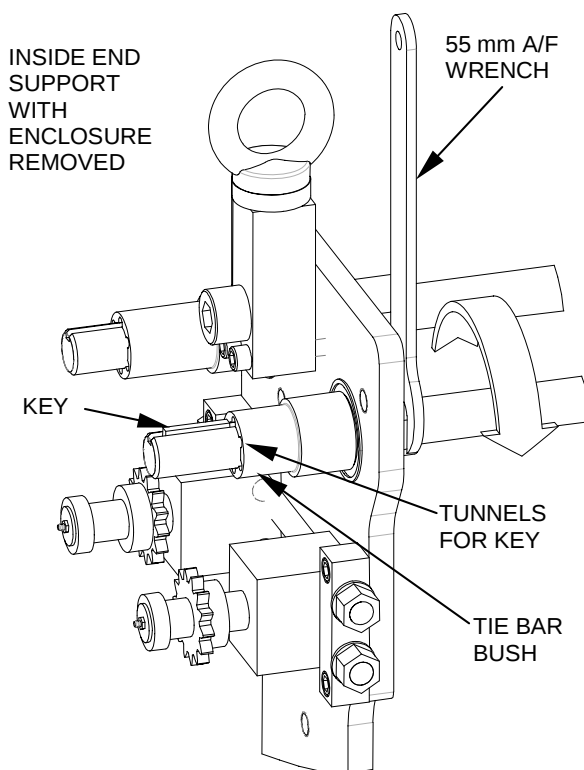

Figure 19
You will notice that each bush has six 'tunnels' any of which can receive the key – refer to Figure 19. Obtain help to tighten the bush using the flats (2.165" [55 mm] A/F) protruding through the inner face of the end support. Rotate the bush, clockwise viewed from the end support end, so that the next available 'tunnel' aligns with the keyway on the tie bar. Push the key (65mm long) into the 'tunnel' to lock the bush to the tie bar. Note that there will be about 1.25" [32mm] of key that will not enter the bush.